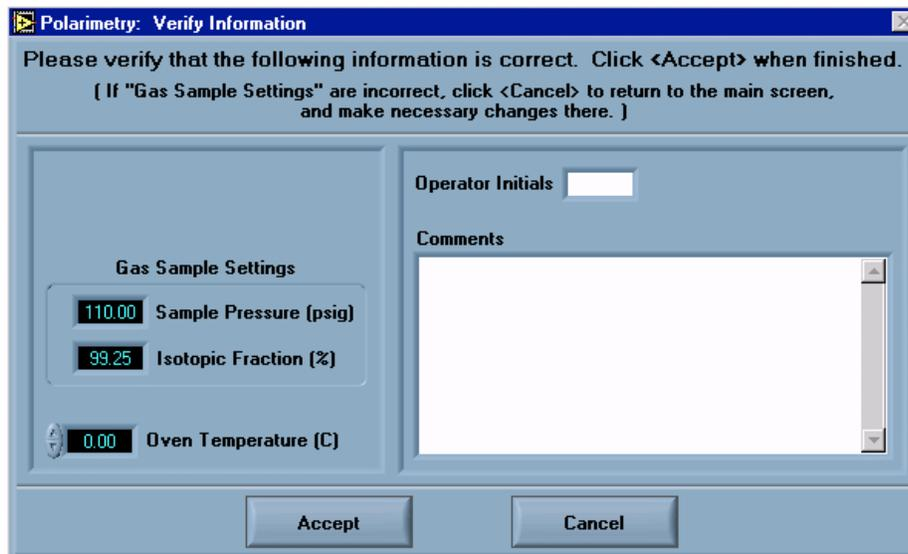

Figure 8: Verify Information box
8. In the Verify Information box, shown in Figure 8, do the following: